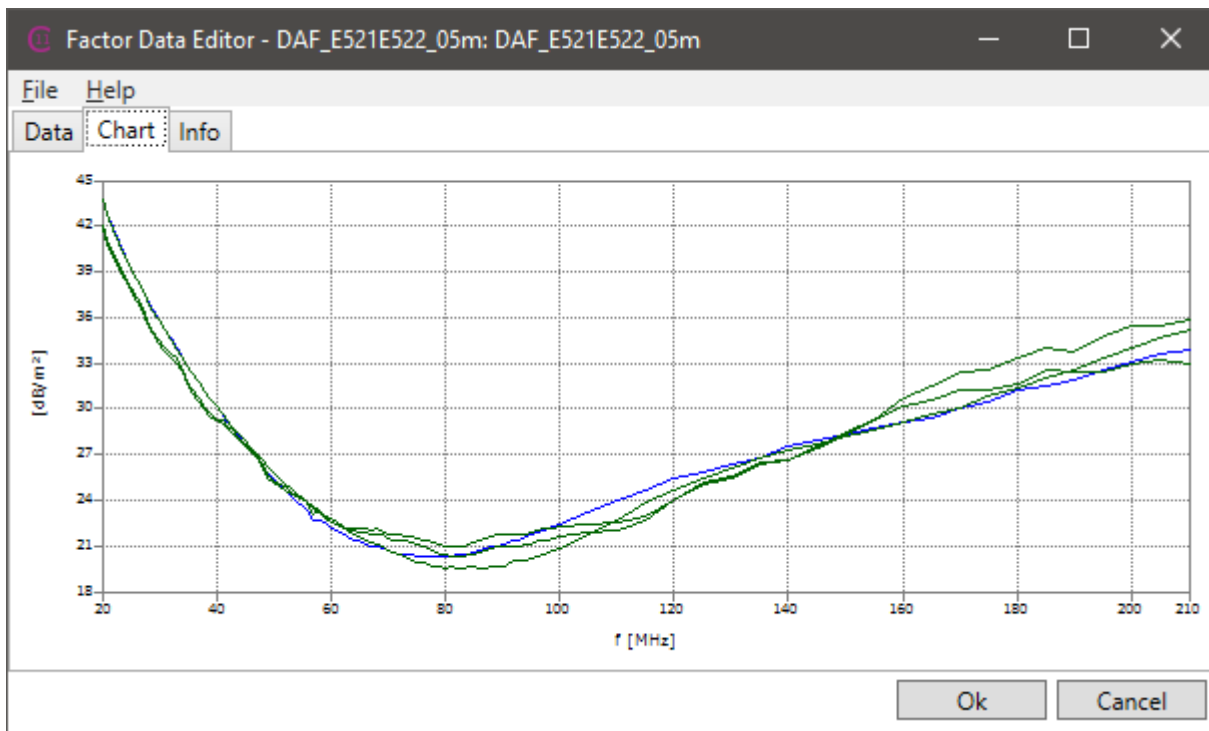

Figure 32: Factor file dialog – Chart tab
2. Chart page – here the factor data chart is shown (see Figure 32)